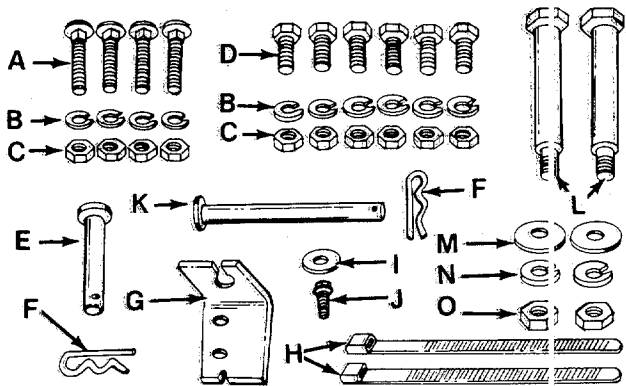
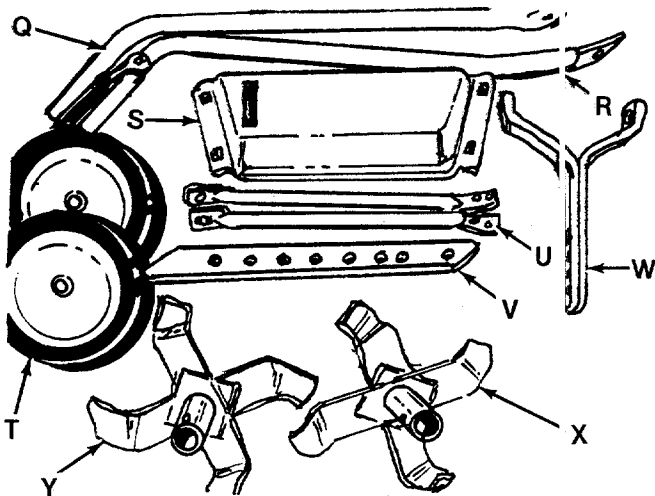
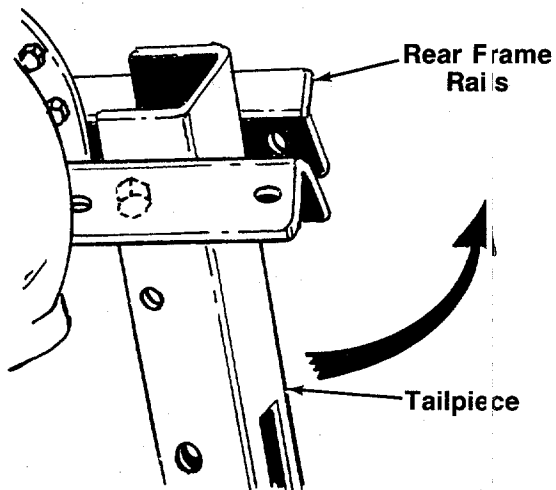

FIGURE 1.
FIGURE 2.
FIGURE 3.
- (1) Adjustable Wrench
**Contents of Hardware Pack: (See Figure 1)**
- A (4) Carriage Bolts 5/16-18 x 1 3/4" Long
- B (10) Lock Washers 5/16" I.D.
- C (10) Hex Nuts 5/16-18 Thread
- D (6) Hex Bolts 5/16-18 x 3/4" Long
- E (1) Clevis Pin 1/2" x 2 1/2" Long
- F (2) Hairpin Cotter
- G (1) Clutch Cable Support Bracket
- H (2) Cable Ties
- I (1) Flat Washer
- J (1) Self-Tapping Screw
- K (1) Clevis Pin 3/8" x 2 1/2" Long
- L (2) Shoulder Bolts (Axles)
- M (2) Belleville Washers
- N (2) Lock Washers 1/2" I.D.
- O (2) Hex Nuts 1/2-20 Thread
- P (2) Grips (Not Shown)
**Loose Parts in Carton: (See Figure 2)**
- Q (1) Right Hand Handle
- R (1) Left Hand Handle
- S (1) Handle Panel
- T (2) Wheels
- U (2) Handle Braces (Right & Left Hand)
- V (1) Depth Bar
- W (1) Wheel Yoke Assembly
- X (1) Right Hand Tine Assembly
- Y (1) Left Hand Tine Assembly
3. The tailpiece is partially assembled. Pivot the tailpiece upward until the holes line up with the rear frame rails. See figure 3.